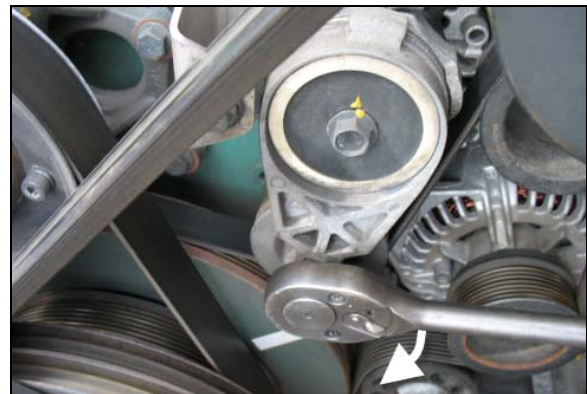

FIGURE 38: ½" SOCKET DRIVE WRENCH
- Insert a ½" socket drive wrench into the automatic belt tensioner opening (Figure 38).